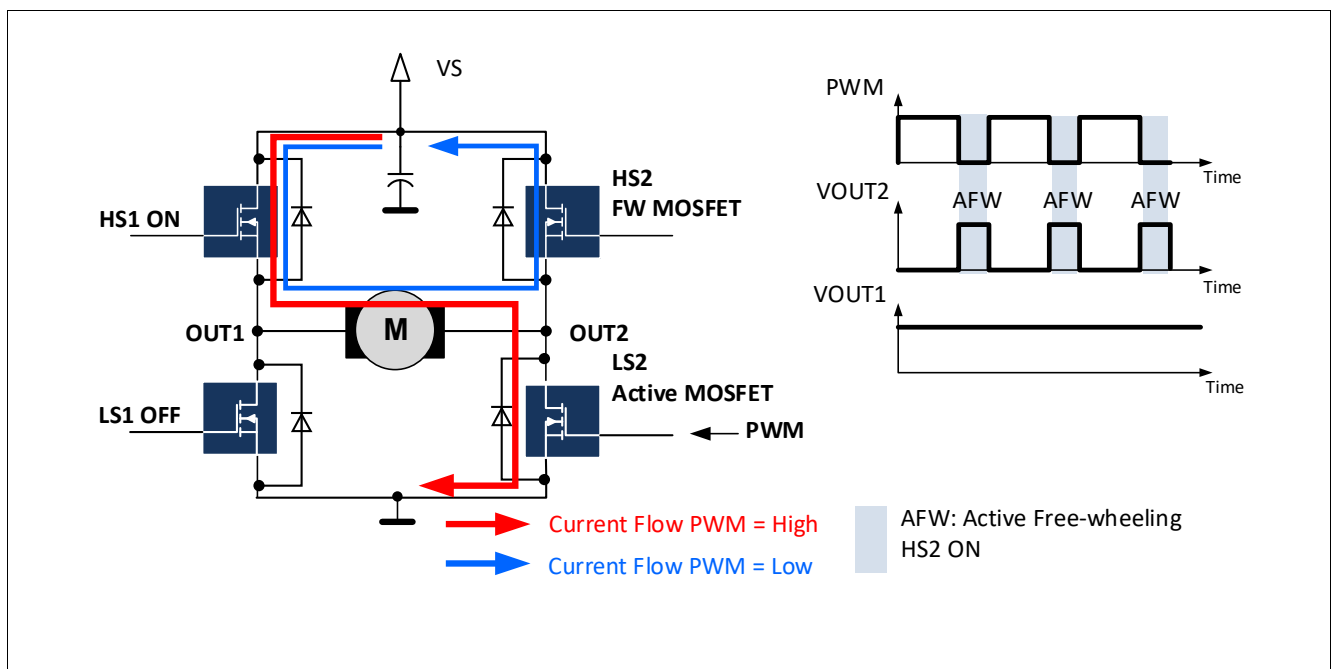

Figure 12 Active freewheeling on HB2: PWM1EN = 1. PWM applied to LS2 (HB2MODE[1:0] = 01B).
An active free-wheeling is automatically implemented when a half-bridge is activated in PWM mode to reduce the power dissipation of the free-wheeling (FW) MOSFET: If the active MOSFET is OFF, the opposite (free-wheeling) MOSFET of the same half-bridge is actively turned on. See **Figure 11**, **Figure 12**, **Figure 13**, **Figure 14**, .